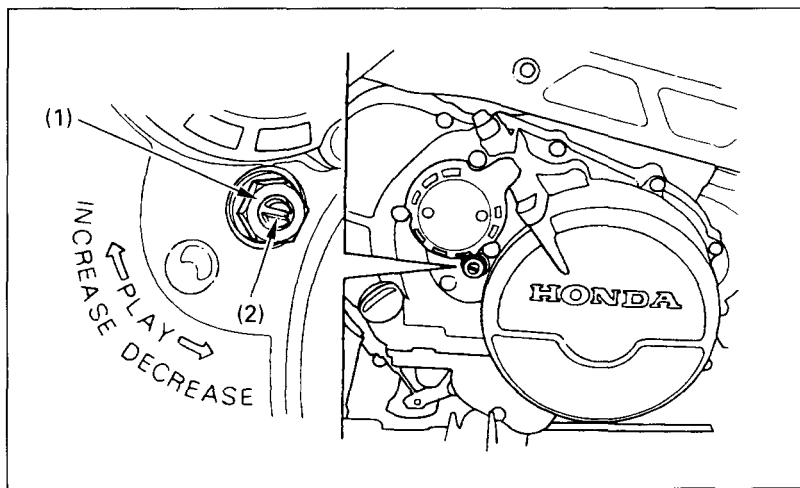

Fig. 4-17 (1) Lock nut
2. Loosen the lock nut (Fig. 4-17), and turn the clutch adjuster (2) counterclockwise until you feel slight resistance.